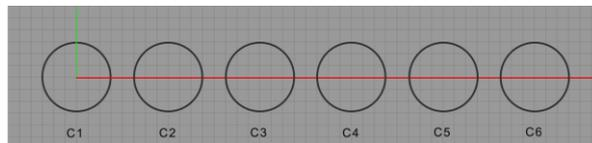

Figure 23. Array of circles.
4. **Array:** Array tool is to create a multiple copies of an object in one shot. For example, let's say we want to create six circles C1-C6 as shown in Figure 23. We need to create only one circle (either C1 or C6) using the method described in section 6.1.3 and use **Array** tool to generate other circles.
- f. For input direction, click on centre of the circle C1 (0, 0) and click on centre of the circle C6 (40, 0). This generates five circles C2-C6 as shown in Figure 23.